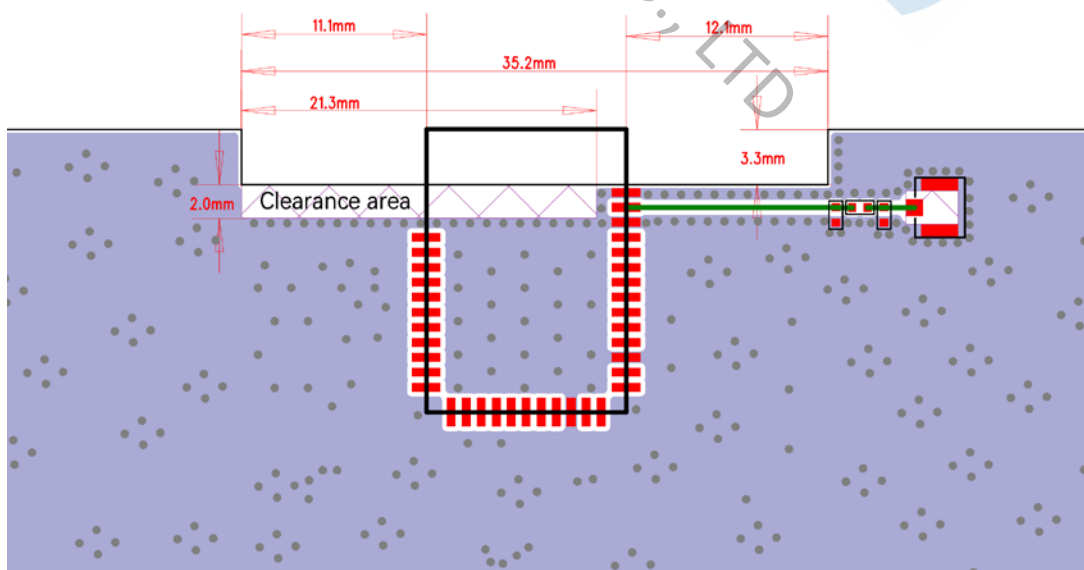

Figure 8-2-1: Module Layout - Baseboard TOP Layer
**Recommendation 1:** Place the module in the middle of the main board (**the customer's baseboard must be hollowed out**). The TOP layer layout is shown in Figure 8-2-1: